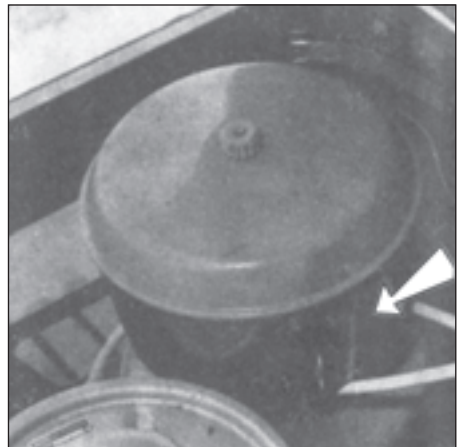

Fig. 162
3. Air pre-cleaner (Fig. 162) and clean it if necessary.